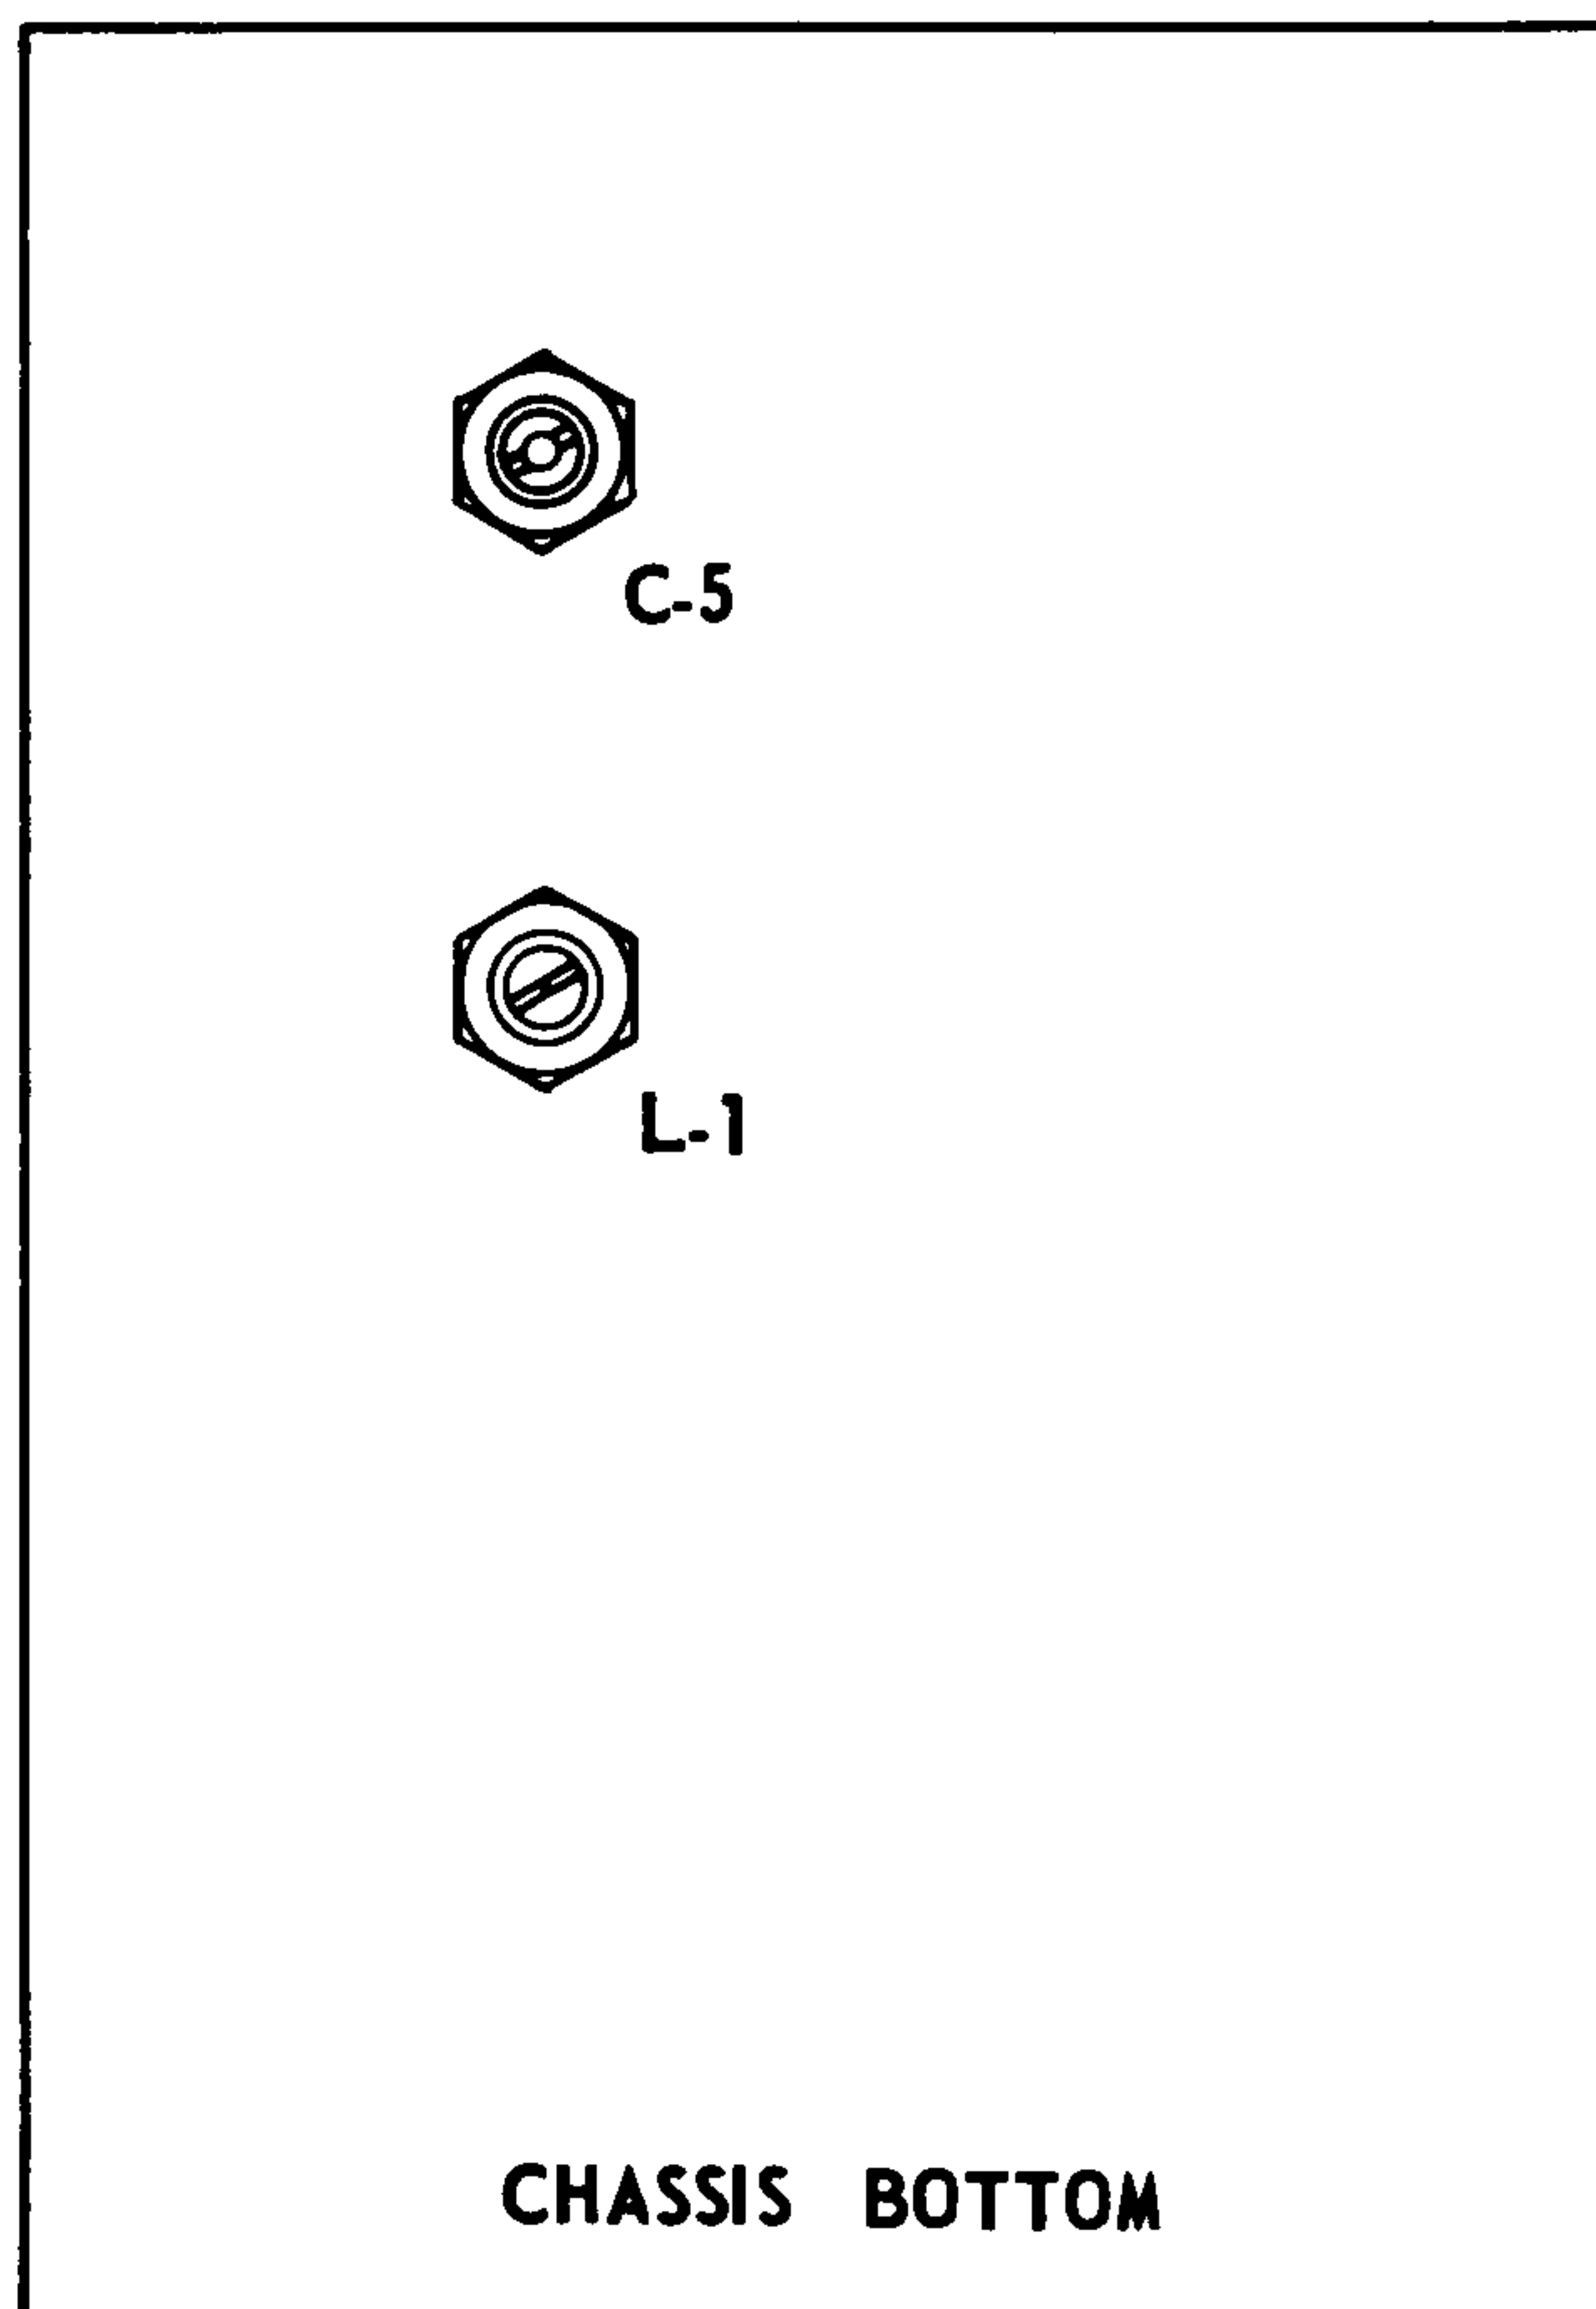

Figure 1.
- (1). Disconnect the VFO from the transmitter.
- (2). Place the CALIBRATE switch to the OFF position.
- (3). Place the VFO POWER switch to the ON position.
- (4). Tune the receiver (BFO on) to 50MC.
- (5). Place the white indicator line of the VFO Bandsread knob to the vertical reference line on the panel.
- (6). Set the VFO Tuning knob so that the dial pointer is at 50MC, tuning condenser plates must be fully meshed.
- (7). Place the CALIBRATE switch to the ON position.
- (8). Adjust the slug in coil L-1 (See Figure 1) for zero-beat with the receiver.
- (9). Tune the VFO and receiver to 54MC.
- (10). Adjust trimmer condenser C-5 for zero-beat with the receiver.
- (11). Repeat steps 8, 9 and 10 as many times as necessary until the 50 and 54MC points on the VFO dial correspond to these same points on the receiver dial.